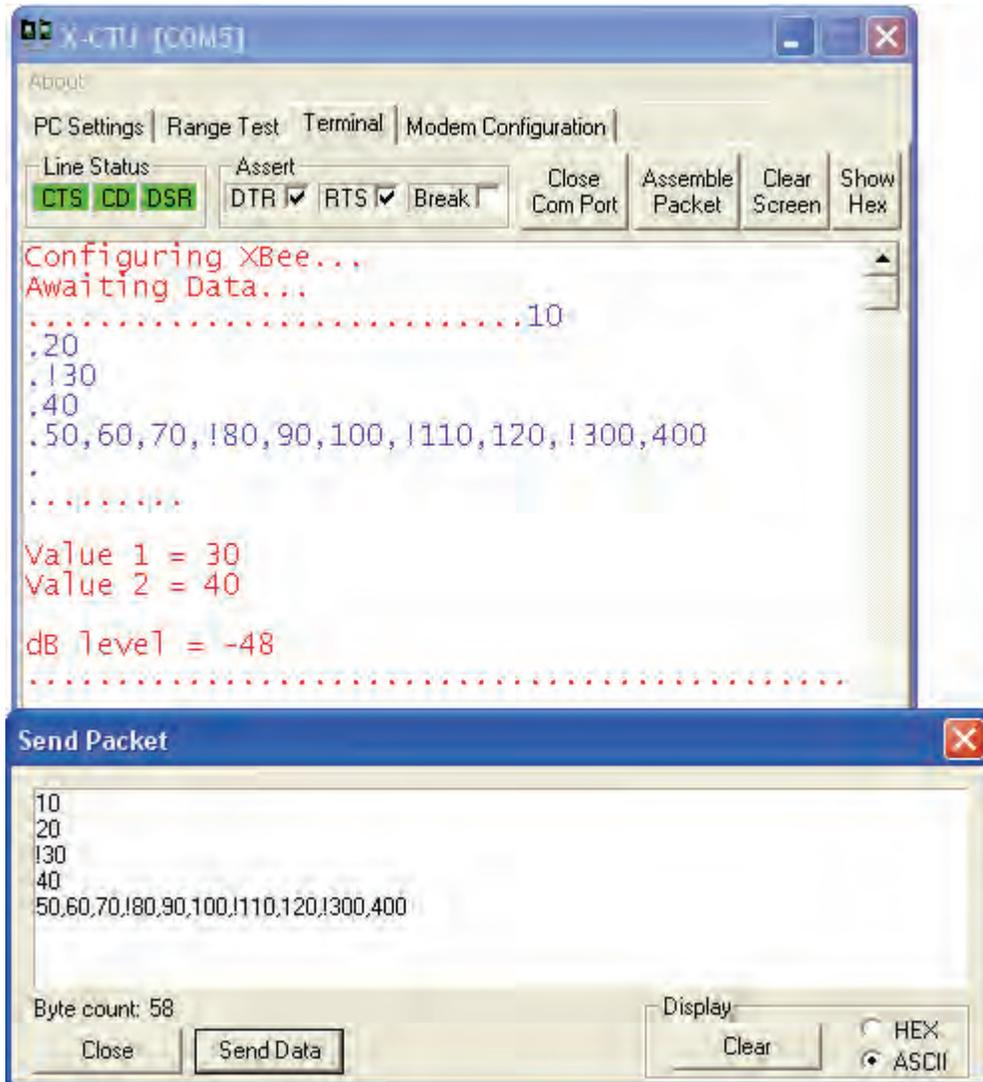

Figure 4-15: Configuring and Reading dBm Level Test
- ✓ Test using the `!` delimiter and values. Note that the dBm level is returned after a good set of data and remaining data is lost, as shown in Figure 4-15.